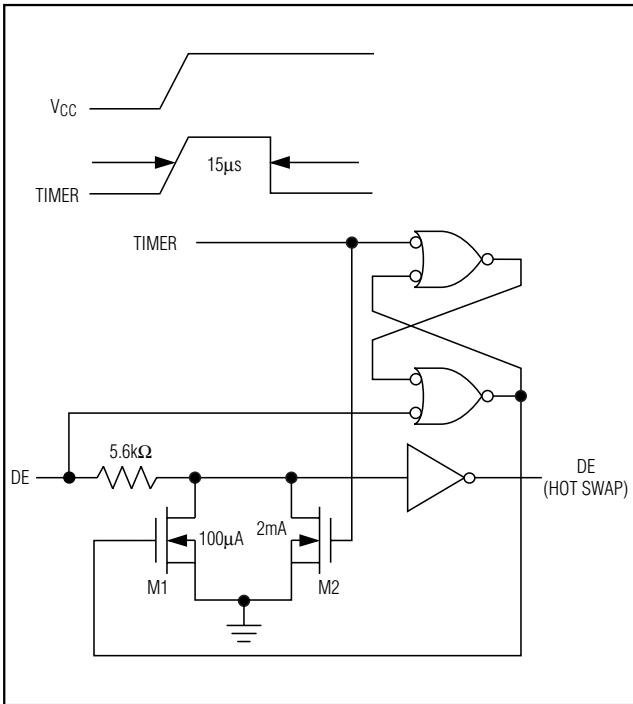

Figure 9. Simplified Structure of the Driver Enable Pin (DE)
At the driver enable input (DE), there are two NMOS devices, M1 and M2 (Figure 9). When VCC ramps from 0, an internal 15μs timer turns on M2 and sets the SR latch, which also turns on M1. Transistors M2, a 2mA current sink, and M1, a 100μA current sink, pull DE to GND through a 5.6kΩ resistor. M2 pulls DE to the disabled state against an external parasitic capacitance up to 100pF that may drive DE high. After 15μs, the timer deactivates M2 while M1 remains on, holding DE low against three-state leakage currents that may drive DE high. M1 remains on until an external current source overcomes the required input current. At this time, the SR latch resets M1 and turns off. When M1 turns off, DE reverts to a standard, high-impedance CMOS input. Whenever VCC drops below 1V, the input is reset.